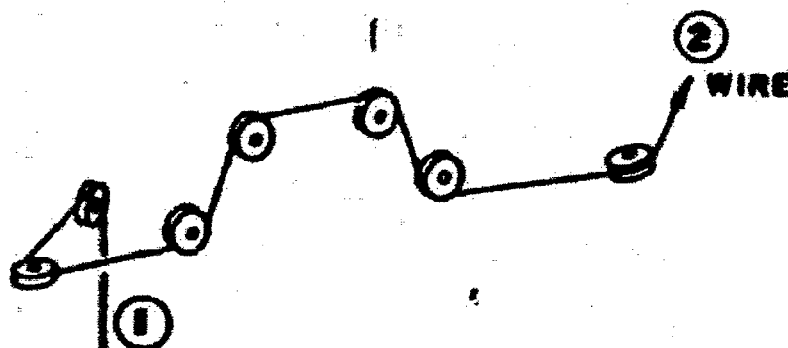

Fig. 3
- (1) Thread the wire thru the pulleys as shown in Figure 3.